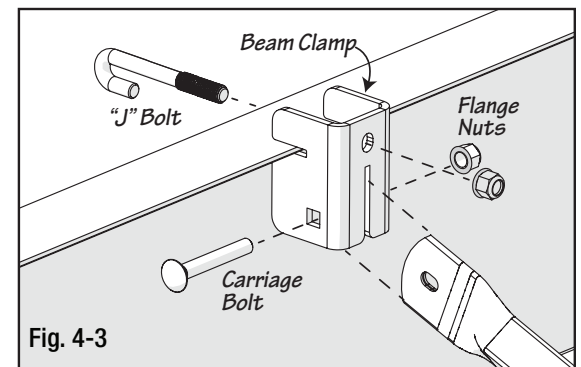

Fig. 4-3
- Slide the beam clamp over the "J" bolt end passing through the top of the beam clamp and slide the clamp over the I-beam frame as shown in Fig. 4-3. Attach flange nut over the "J" bolt and loosely tighten nut.
- Align/insert the lateral strut end in the mounting slot on the bottom of the beam clamp. As shown right in Fig. 4-3.